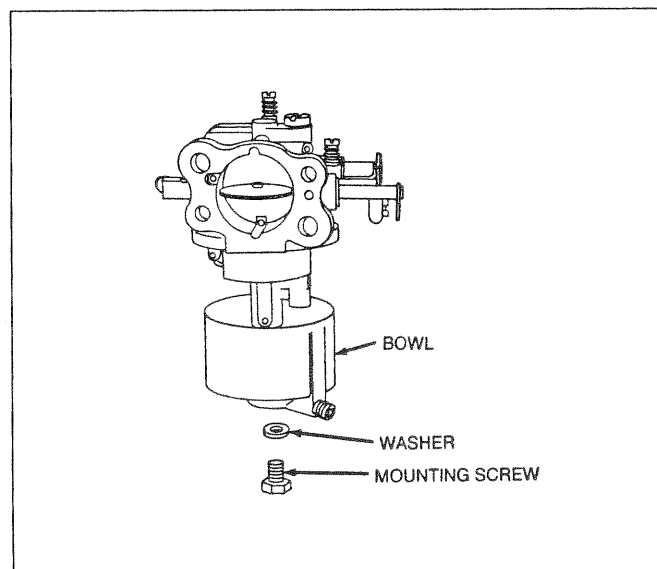

Figure 140. Bowl Installation
- Install bowl, washer and screw (Figure 140). Position bowl drain as shown and tighten screw securely.